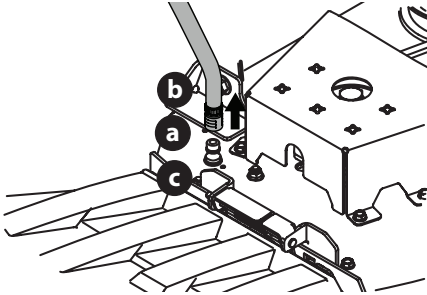

Figure 24
3. Pull back the lock collar (a) of the nozzle adapter (b) and push the nozzle adapter onto the deck wash nozzle (c). Release the lock collar to lock the nozzle adapter on the deck wash nozzle (Figure 24).